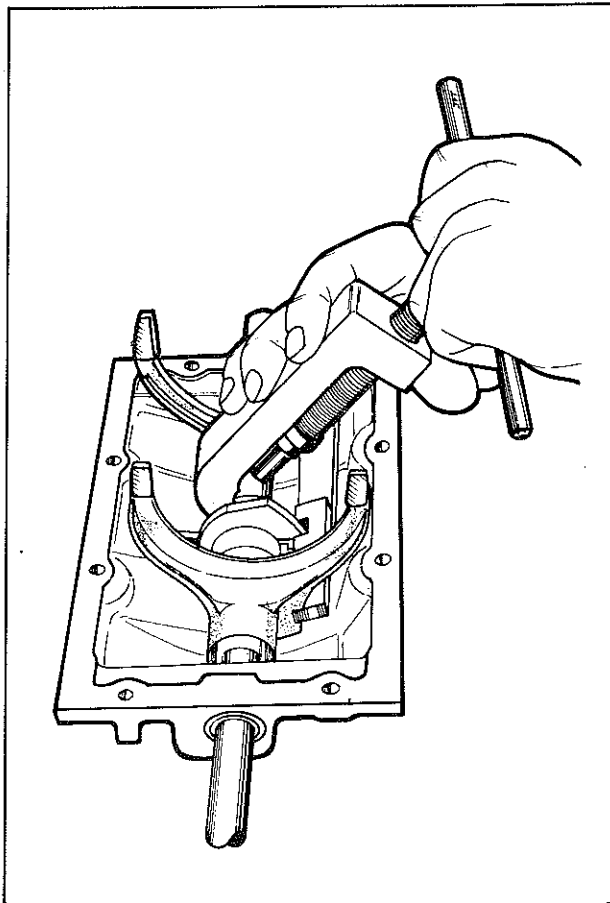

Fig. 18—Removing operating pin
- (1) Remove the detent screw, detent spring and detent pin.
- (2) Tap on the rear end of the gearshift rail to remove the metal cup plug.
- (3) Rotate the gearshift rail and move it forward so that the operating pin is free of the interlock spool.
- (4) Using basic tool E21C20 in conjunction with adaptor pin E21M20, remove the operating pin, Fig. 18.